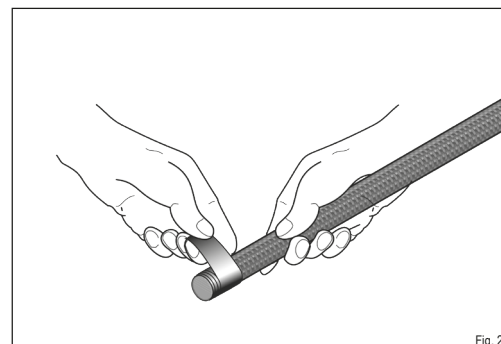
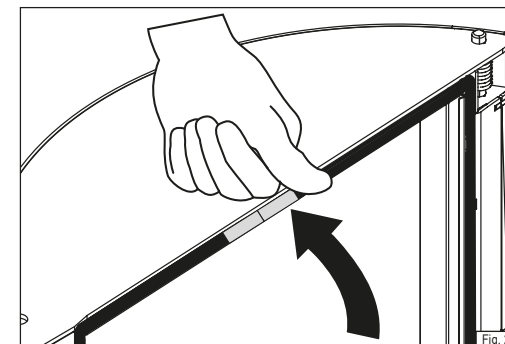

Fig. 24
Fig. 28
- ▶ Wrap approx. 3 cm of one end of the new seal with copper tape (Fig. 24).
- ▶ Also wrap this end in copper tape (Fig. 28) and push the seal into the rail (Figure 24)